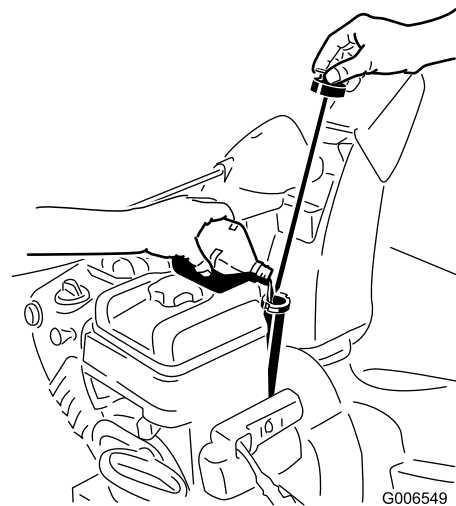

Figure 18
1. Remove the dipstick and **slowly** pour oil into the oil fill tube to raise the oil level to the Full mark on the dipstick. **Do not overfill** (Figure 18).